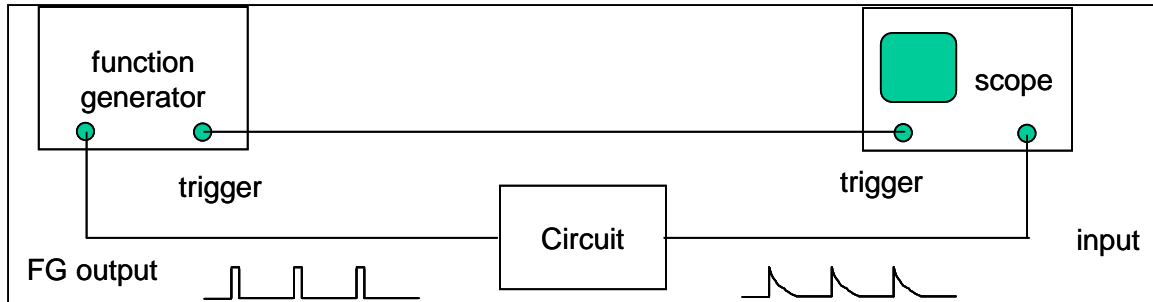

Figure 4. Experimental test setup for measuring the impulse and step response of the SUT.
The basic test setup is shown in Figure 4. The trick is to be able to create a “unit step” and an “impulse” waveform to test the system. Of course, we cannot create either of these two ideal waveforms in our part of the universe. However, we can create reasonable approximations.
1. Set up the laboratory equipment as shown in Figure 4. Be sure to use the higher frequency capability function generator. Construct your RC circuit using the values of R and C you determined in the Prelab exercises. Calculate the *actual* time constant for your circuit using *actual measured* component values.
2. Determine the waveform setting for the function generator shown in Figure 4 for simulating a step input waveform for this circuit.
4. Determine the waveform setting for the function generator shown in Figure 4 for simulating an impulse waveform for this circuit.